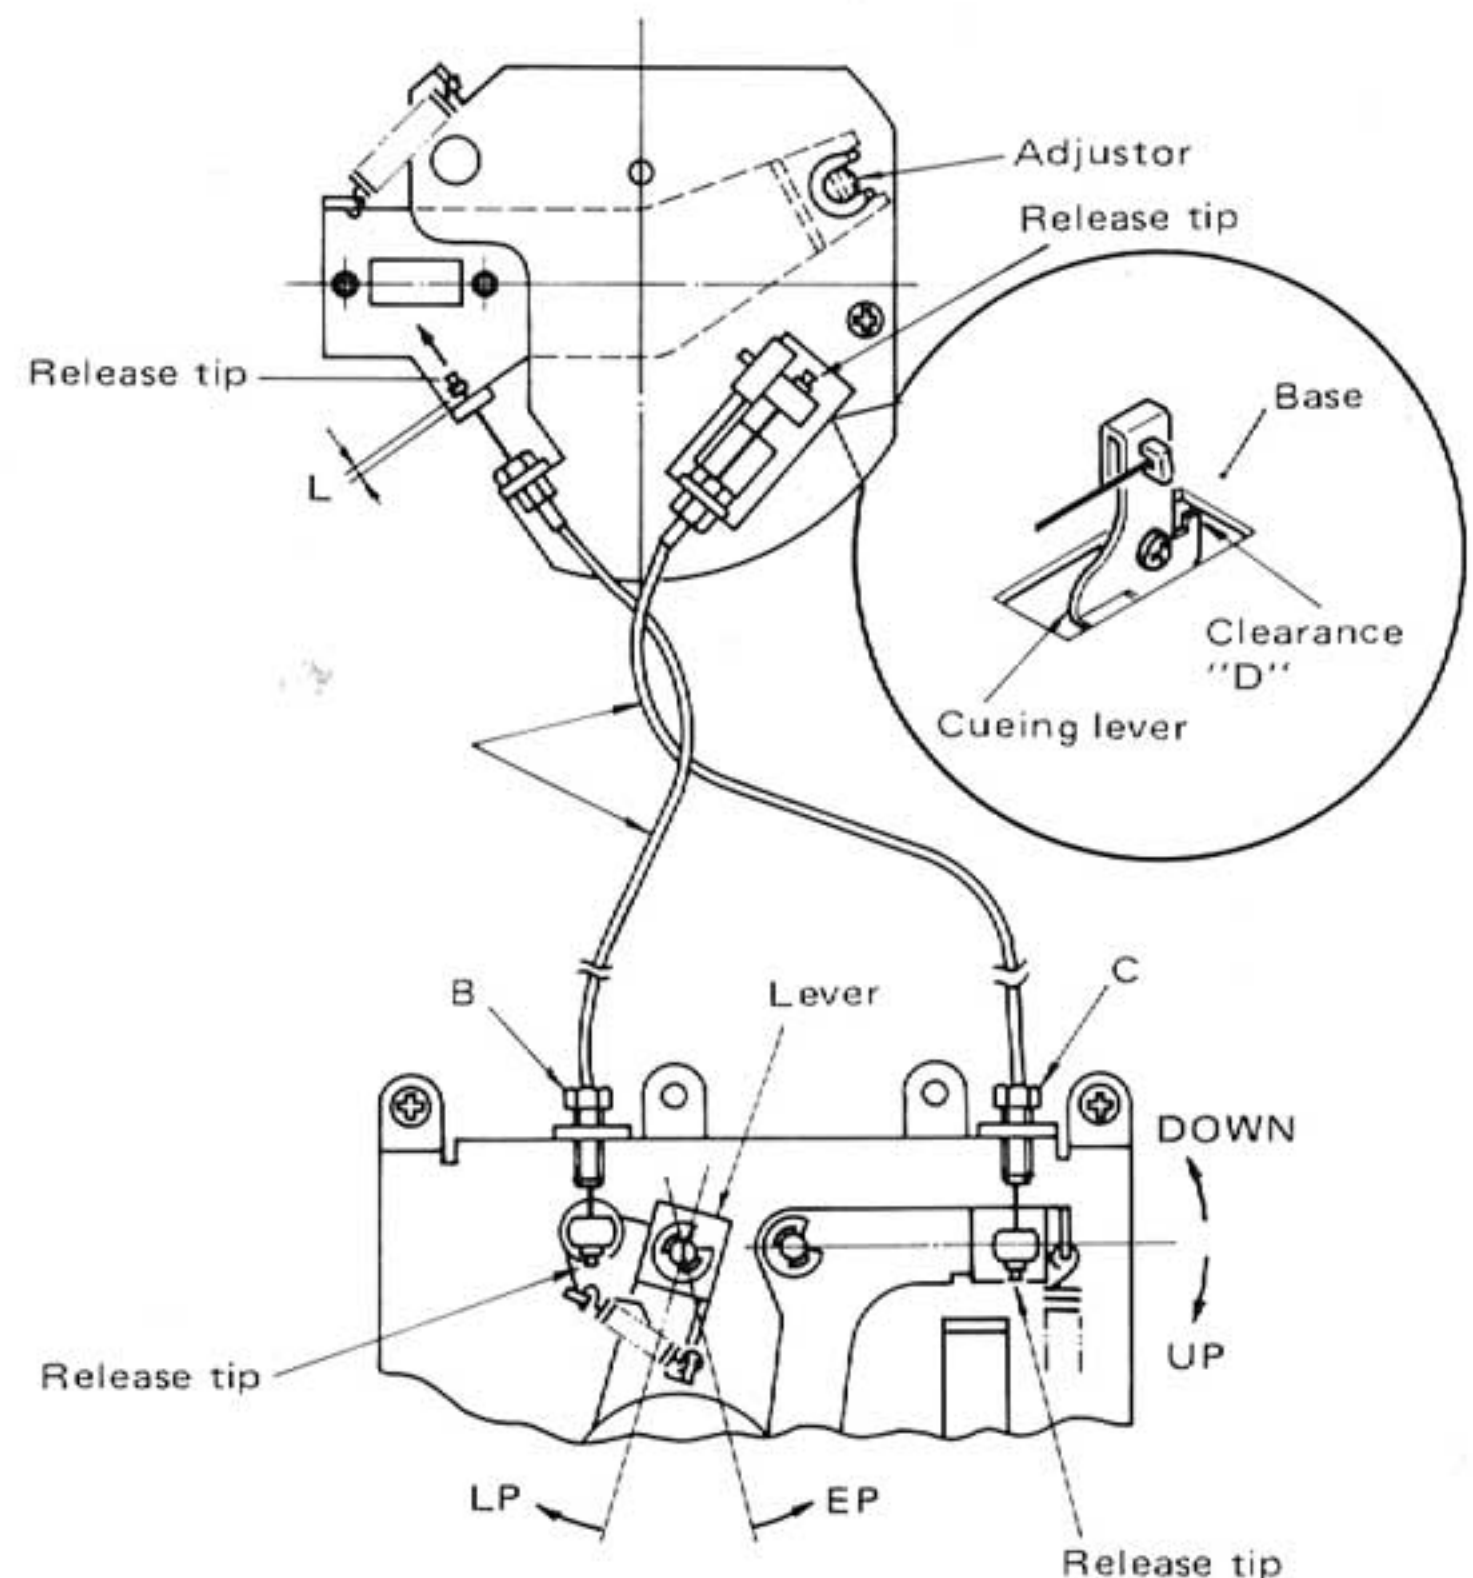

Fig. 28
2. Turn the screw C until the clearance "D" between the cueing lever and its base becomes 0. (See Fig. 28.)